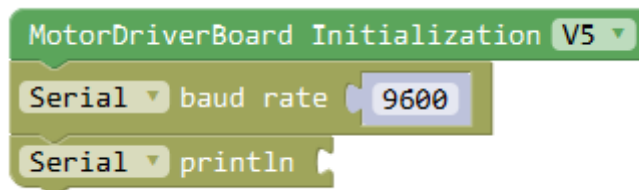

Figure 2-2-2
- 2) In the serial port module, drag the "serial print (auto wrap)" block to the bottom of "serial baud rate 9600", as shown in figure 2-2-2